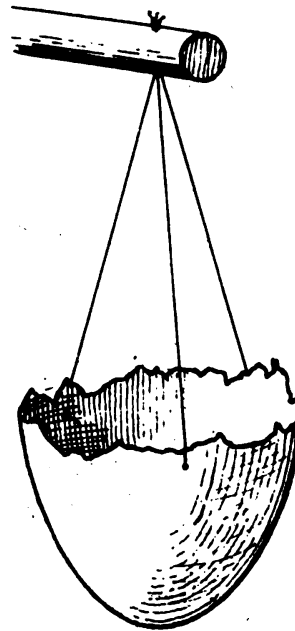

FIG. 71.
*Fairy Light Wheel.*—For this, instead of fixing figures at the ends of the skewers, obtain four egg shells, and suspend them by means of wires from the ends of the arms (Fig. 71). Now if little night-lights or odd ends of candle be placed in the egg shells and lighted, a very pretty effect is obtained when the whole is made to revolve.